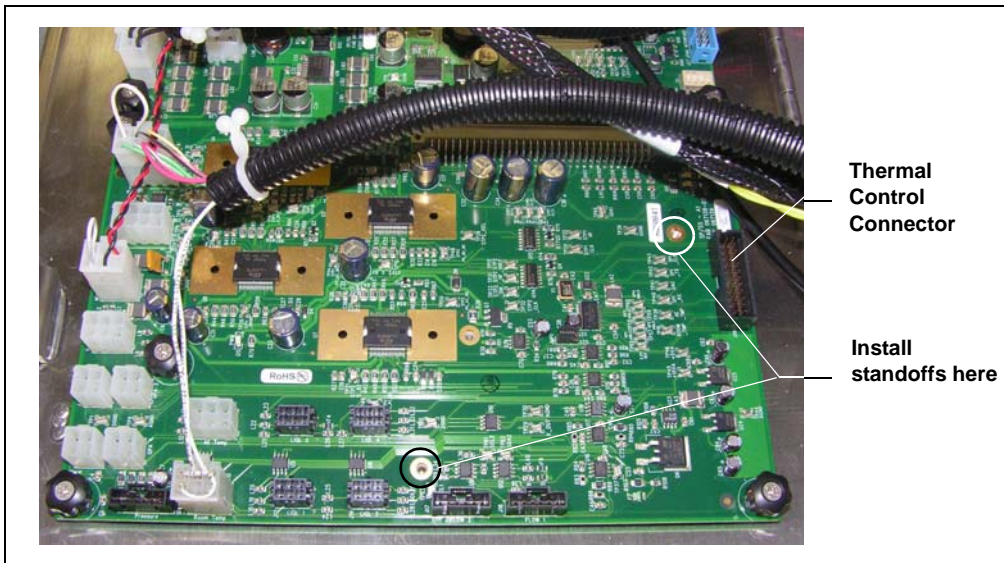

Figure G-1. SP Electronics Board (Horizontal SP Enclosure Shown)
3. Screw the two standoffs into the SP electronics board at the locations indicated on Figure G-1.
5. Align the connector on the back of the thermal control board with the corresponding connector on the bottom right side of the main SP electronics board (see Figure G-1).